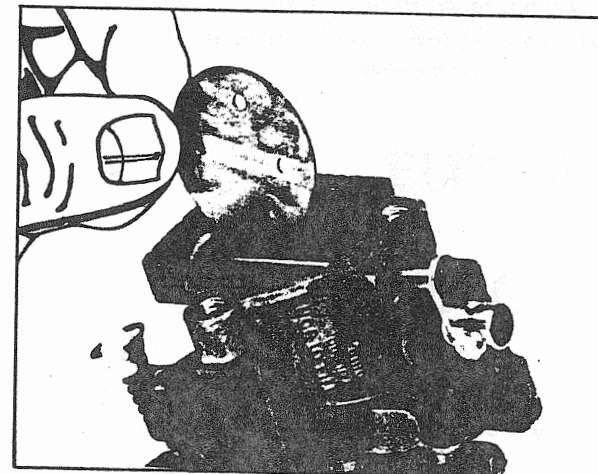

FIGURE 9
- Mark the choke and throttle shutters before removal for correct reassembly. Remove the two (2) screws and pull the shutter from the carburetor body. (Fig. 9).